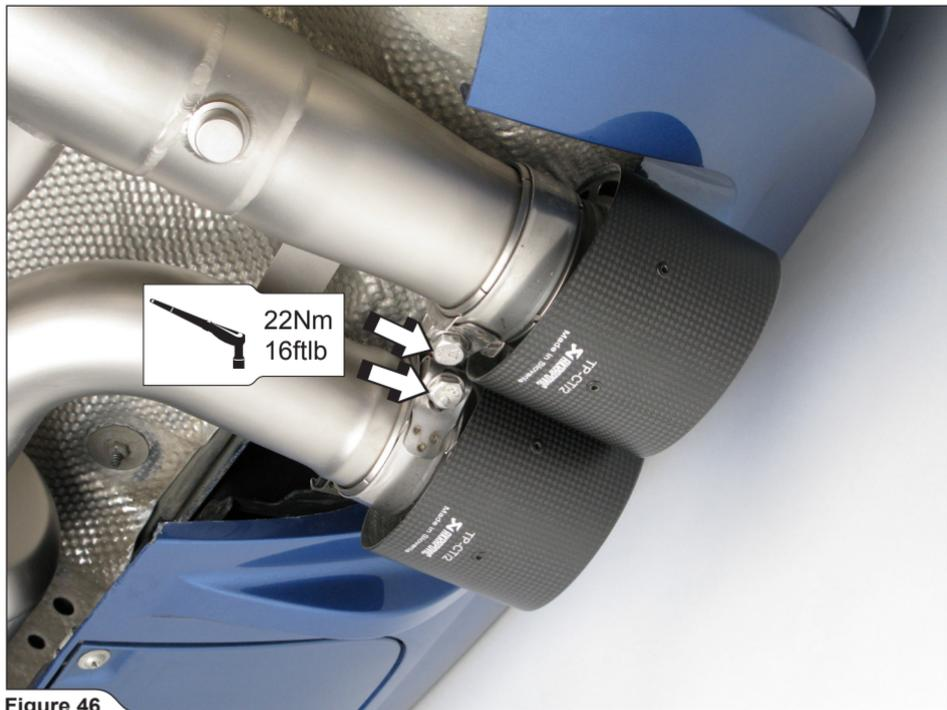

Figure 46
24. Tighten Tail Pipes' clamps to a specified torque, on both sides of the vehicle (**Figure 46**).